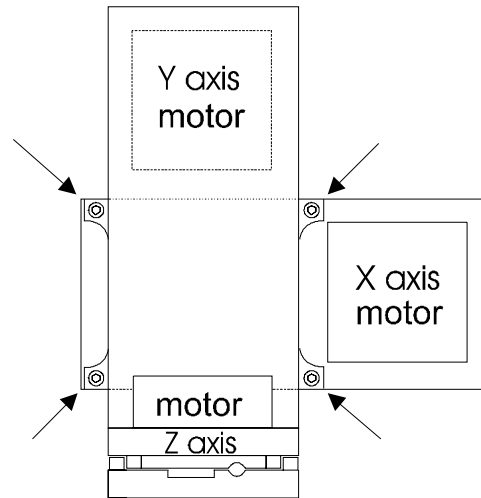

Figure 28. Y-axis mounting screws indicated by arrows (Right hand MP-285, top view).
4. Identify the four hex (Allen) “cap” screws that mount the Y-axis slide assembly on top of the X-axis slide assembly (indicated by arrows in Figure 28). Using a 2.5mm Allen wrench remove those 4 screws. The Allen wrench that was shipped with the MP-285 for removing the shipping screws is the correct size for these screws as well.